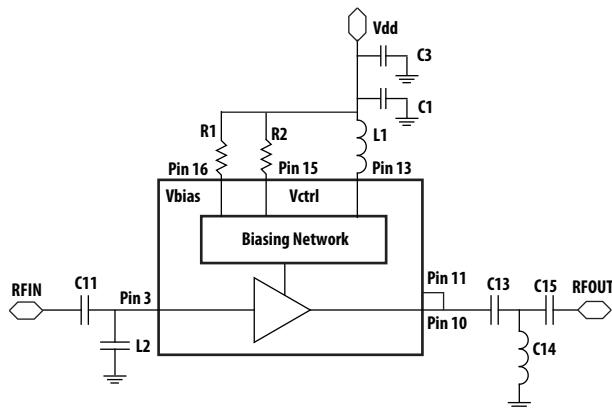

Figure 46. Circuit Diagram
1. Vbias and Vctrl can be externally controlled by change external biasing resistors $R_1 = R_{bias}$ and $R_2 = R_{ctrl}$ (as shown in Fig. 46).
1. V_{bias} and V_{ctrl} can be externally controlled by change external biasing resistors R₁ = R_{bias} and R₂ = R_{ctrl} (as shown in Fig. 46).
1. V_{bias} and V_{ctrl} can be externally controlled by change external biasing resistors $R_1 = R_{bias}$ and $R_2 = R_{ctrl}$ (as shown in Fig. 46).
1. V_{bias} and V_{ctrl} can be externally controlled by change external biasing resistors $R1 = R_{bias}$ and $R2 = R_{ctrl}$ (as shown in Fig. 46).